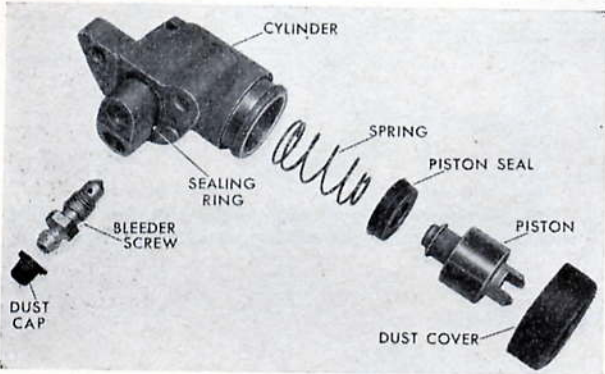

Fig. O.13. Front brake cylinder—exploded view
1. Assemble a new seal to piston ensuring that the larger diameter is towards the inner end of the piston (Fig. O.13).